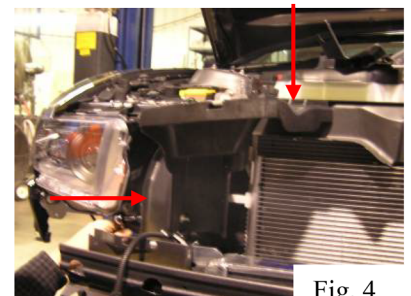

Fig. 4
- 16) Remove the 2 bolts and 3 snaps that hold the plastic grill mount and radiator duct. Remove these components (Fig. 4).